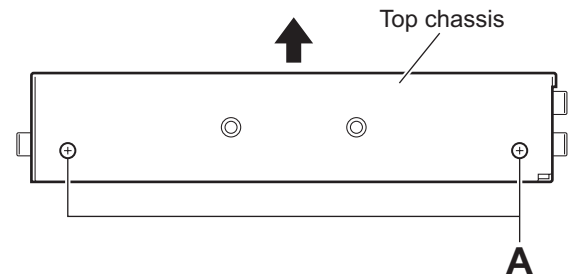

Fig.1
- (1) From the both sides of the main body, remove the four screws **A** attaching the top chassis. (See Fig.1 and 2.)
- (3) Take out the top chassis from the main body in the direction of the arrow. (See Figs.1 to 3.)